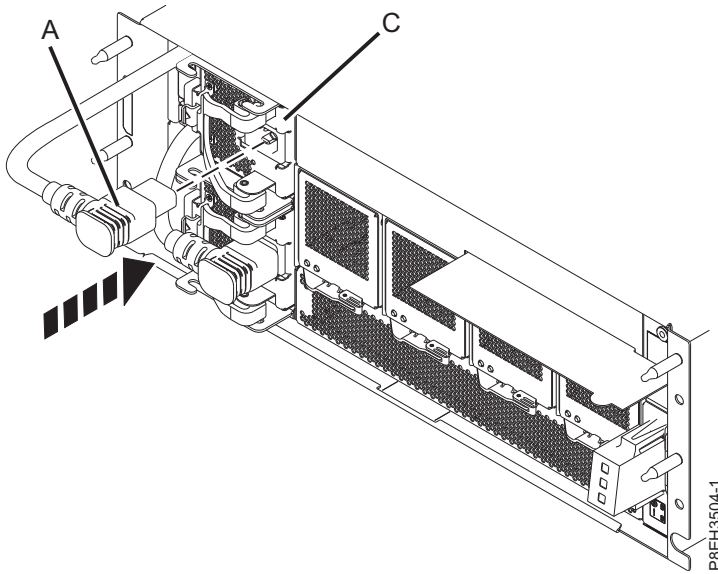

Figure 7. Connecting the power cord to the power supply in the EMX0 PCIe3 expansion drawer
4. Connect the power cord **(A)** to the power supply **(C)**, as shown in Figure 7 on page 6.